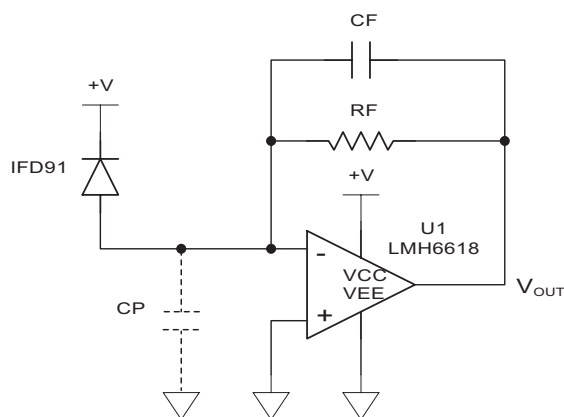

FIGURE 5. Transimpedance amplifier
3. We could change the circuit from the basic resistor (Figure 2) to the transimpedance amplifier (Figure 5).
The circuit shown in Figure 5 can be used for higher frequency and higher gain applications. It uses an opamp configured as a transimpedance amplifier. This will convert the current output of the IF-D91 photodiode to a voltage. The output is inverted (output low with light input). The output is given by $V_{OUT} = -I_D \times R_F$. Where I_D is the current from the IF-D91. Capacitor CF may be needed for stability to cancel the total capacitance connected to the negative input of the opamp. This capacitance is the sum of the IF-D91 capacitance, the opamp input capacitance and any stray parallel capacitance (CP) from the circuit board. $C_T = C_{IFD91} + C_{U1} + CP$. For stability the value of CF should be at least
Continuing with the previous example, the power into the IF-D91 was 31.1 uW and the detector current, I_D , was 12.4 uA. The LMH6618 Op-amp shown in Figure 5 has an input capacitance of 1.5 pF and a large signal gain bandwidth product of 15 MHz. For $V_{OUT} = 5$ Volts the value of R_F would be 402 kOhms. We will assume the stray board capacitance is 1 pF giving a total capacitance of $C_T = 4.5$ pF. Using the above equation for CF gives a value of 0.34 pF. Using the equation for bandwidth yields $BW = 1.1$ MHz which is plenty for this application.